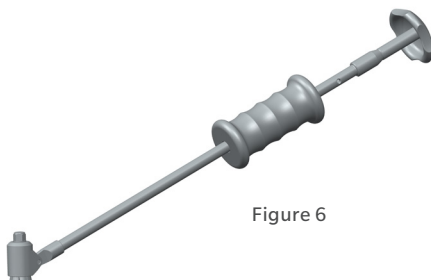

Figure 6
5. The final assembled instrument is shown on Figure 6.